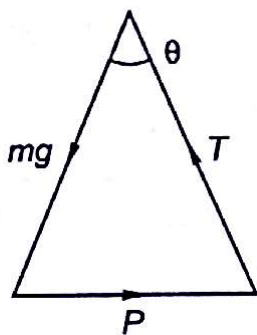

Fig. 3.76
3.4 (c) (Fig. 3.76) $P/mg = \tan \theta$